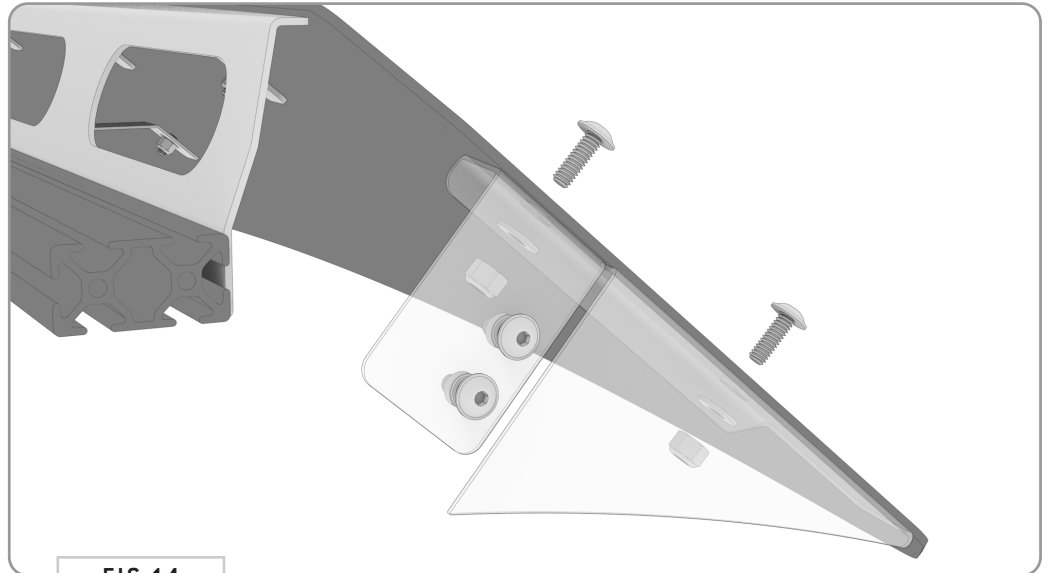

FIG 14
4.6 Driver and Passenger Side Fairing Brackets: Attach the Driver and Passenger Side Fairing Brackets to the Assembly using 1/4-20 x 0.75 Flanged Button Head Screws, Flat Washers and Nylon Locknuts (FIG 14).